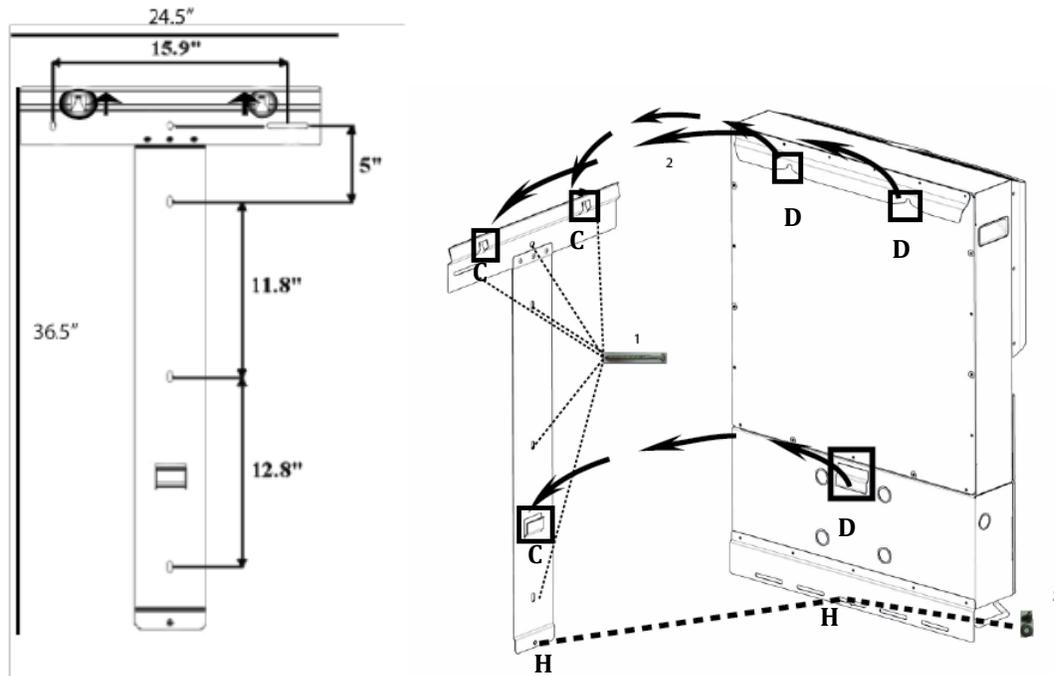

Figure 2.01 - Bracket and Mounting Details *PVI-10.0-I-OUTD-S-US-XXX-YY*
Step 2: Orient the bracket such that the “C” hooks face outward and upward. (Figure 2.01)
Step 3: Using the hardware provided, level and mount the bracket to the surface using mounting holes shown in Figure 2.01.
Step 5: Secure the bottom of the inverter using the machine screw (6x20mm) and washer (18mm diameter) provided. Insert machine screw through center hole of the bottom inverter mount, and engage the PEMnut mounted in the bracket. (H, in Figure 2.01)